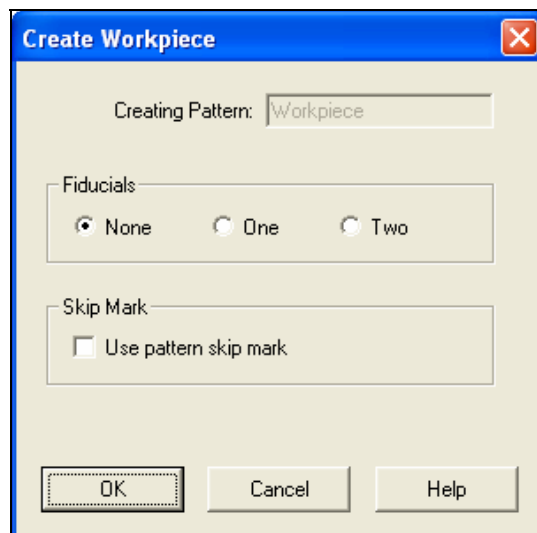

Figure 3-3 Create Workpiece Dialog Box
- ▶ The Create Workpiece dialog box (Figure 3-3) opens.